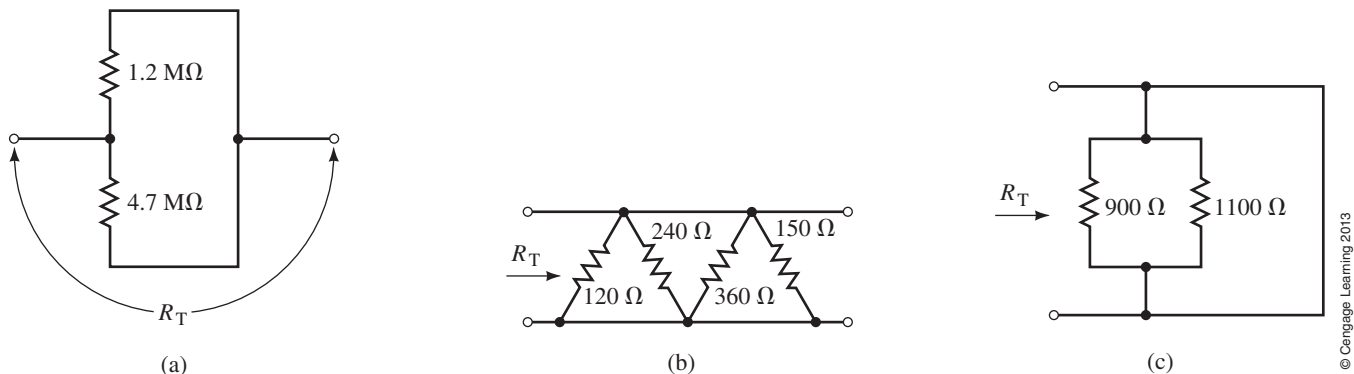

FIGURE 6–63
21. Determine the values of the resistors in the circuit of Figure 6–64, given the indicated conditions.